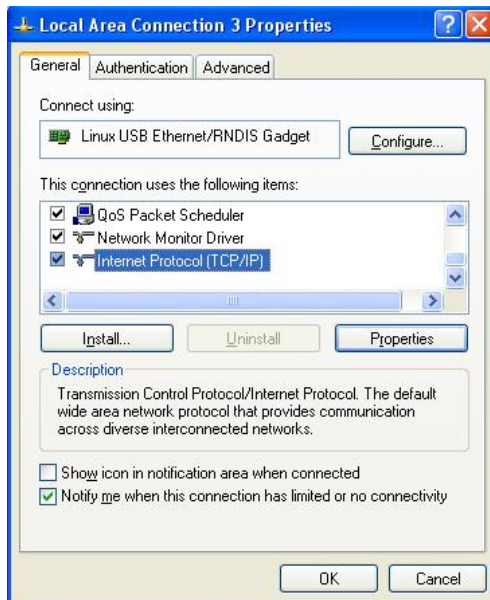

FIG. 34 Local Area Connection 3 Properties
- In the Local Area Connection 3 Properties window (FIG. 34) under the **General** tab, select *Internet Protocol (TCP/IP)* and click on **Properties**.